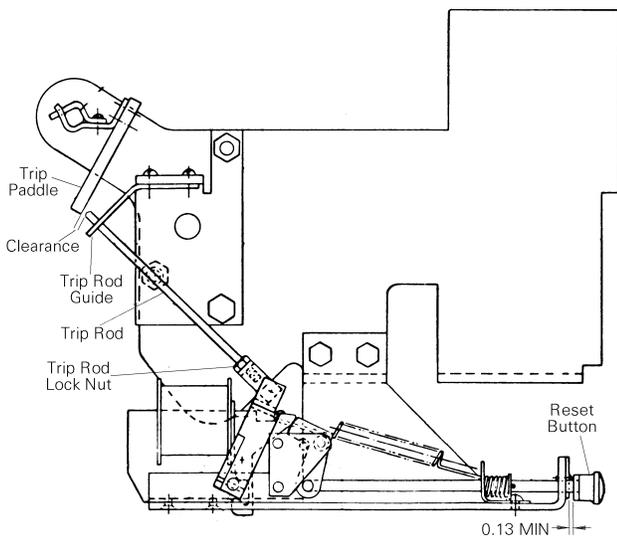

Figure 62. Open-Fuse Lockout adjustments, side view.
3. Lower the Open-Fuse Lockout, guiding the trip rod through the trip rod guide on the mounting bracket, as shown in Figure 62.
- b. Loosen the trip rod lock nut and turn the rod in or out to give a 0.13-inch clearance between the trip paddle and the end of the trip rod, as shown in Figure 62.
5. Clearance of 0.13 inch should be maintained at the reset knob, as shown in Figure 62. To adjust this clearance, loosen the lock nut at the button and turn the button in until the proper distance is achieved. Retighten the lock nut.